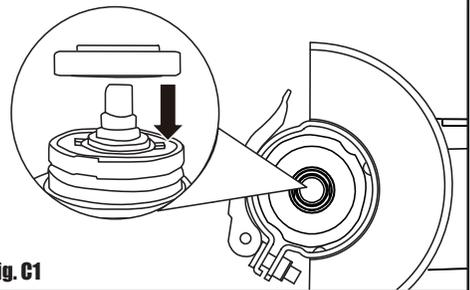

Fig. C1
Put the inner flange (11) onto the tool spindle. Ensure it is located on the two flats of spindle (See Fig. C1). Place the disc on the tool spindle and inner flange (11). Ensure it is correctly located.